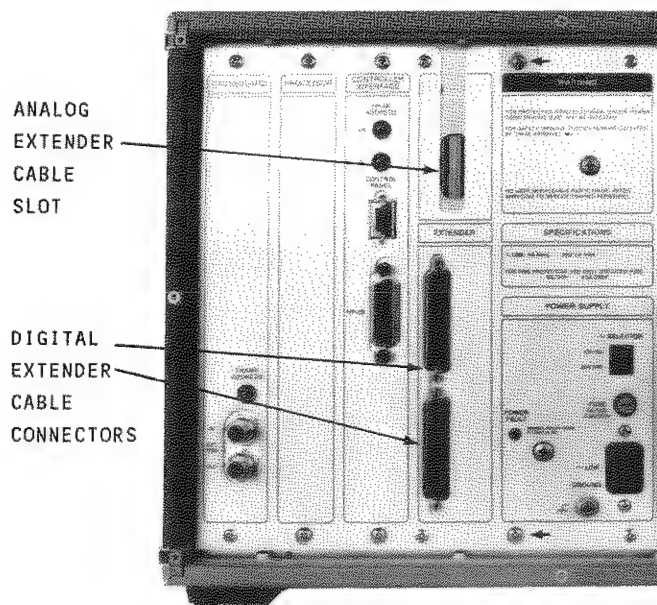

Figure 18. Bus Access or Extender Module Location.
- a. Remove the metal silkscreened panel which covers the **CROSSGUARD** through **POWER SUPPLY** system modules. Six no. 2 pozidriv screws hold this panel in place and are shown in Figure 18.
c. Insert the Bus Access (or Extender Module) into the empty slot next to the power supply system module (see Figure 18).